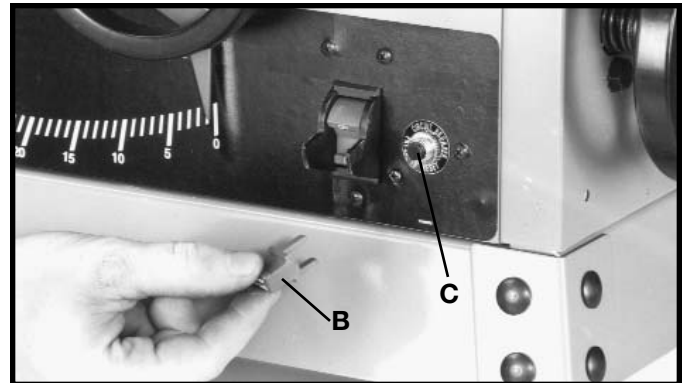

Fig. 34
IMPORTANT: When the tool is not in use, the switch should be locked in the “OFF” position to prevent unauthorized use. Grasp the switch toggle (B) and pull it out as shown in Fig. 34. With the switch toggle (B) removed the switch will not operate. However, should the switch toggle be removed while the saw is running, it can be turned “OFF” once, but cannot be restarted without inserting the switch toggle (B).
Your saw is equipped with a restable overload. If the motor shuts off or fails to start due to over-loading (cutting stock too fast, using a dull blade, using the saw beyond its capacity, etc.) or low voltage, turn the switch to the “OFF” position, let the motor cool three to five minutes and push the reset button (C) Fig. 34, which will reset the overload device. The motor can then be turned on again in the usual manner.